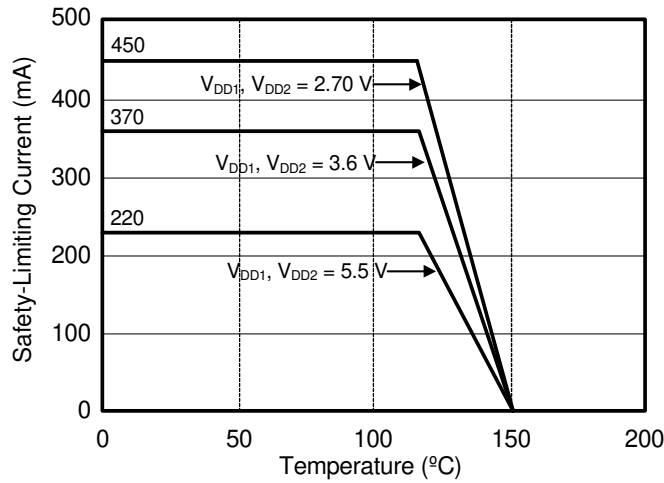

Figure 2. (WB SOIC-16) Thermal Derating Curve, Dependence of Safety Limiting Values with Case Temperature per DIN EN 60747-5-2
- Maximum value allowed in the event of a failure; also see the thermal derating curve in Figures 2 and 3.